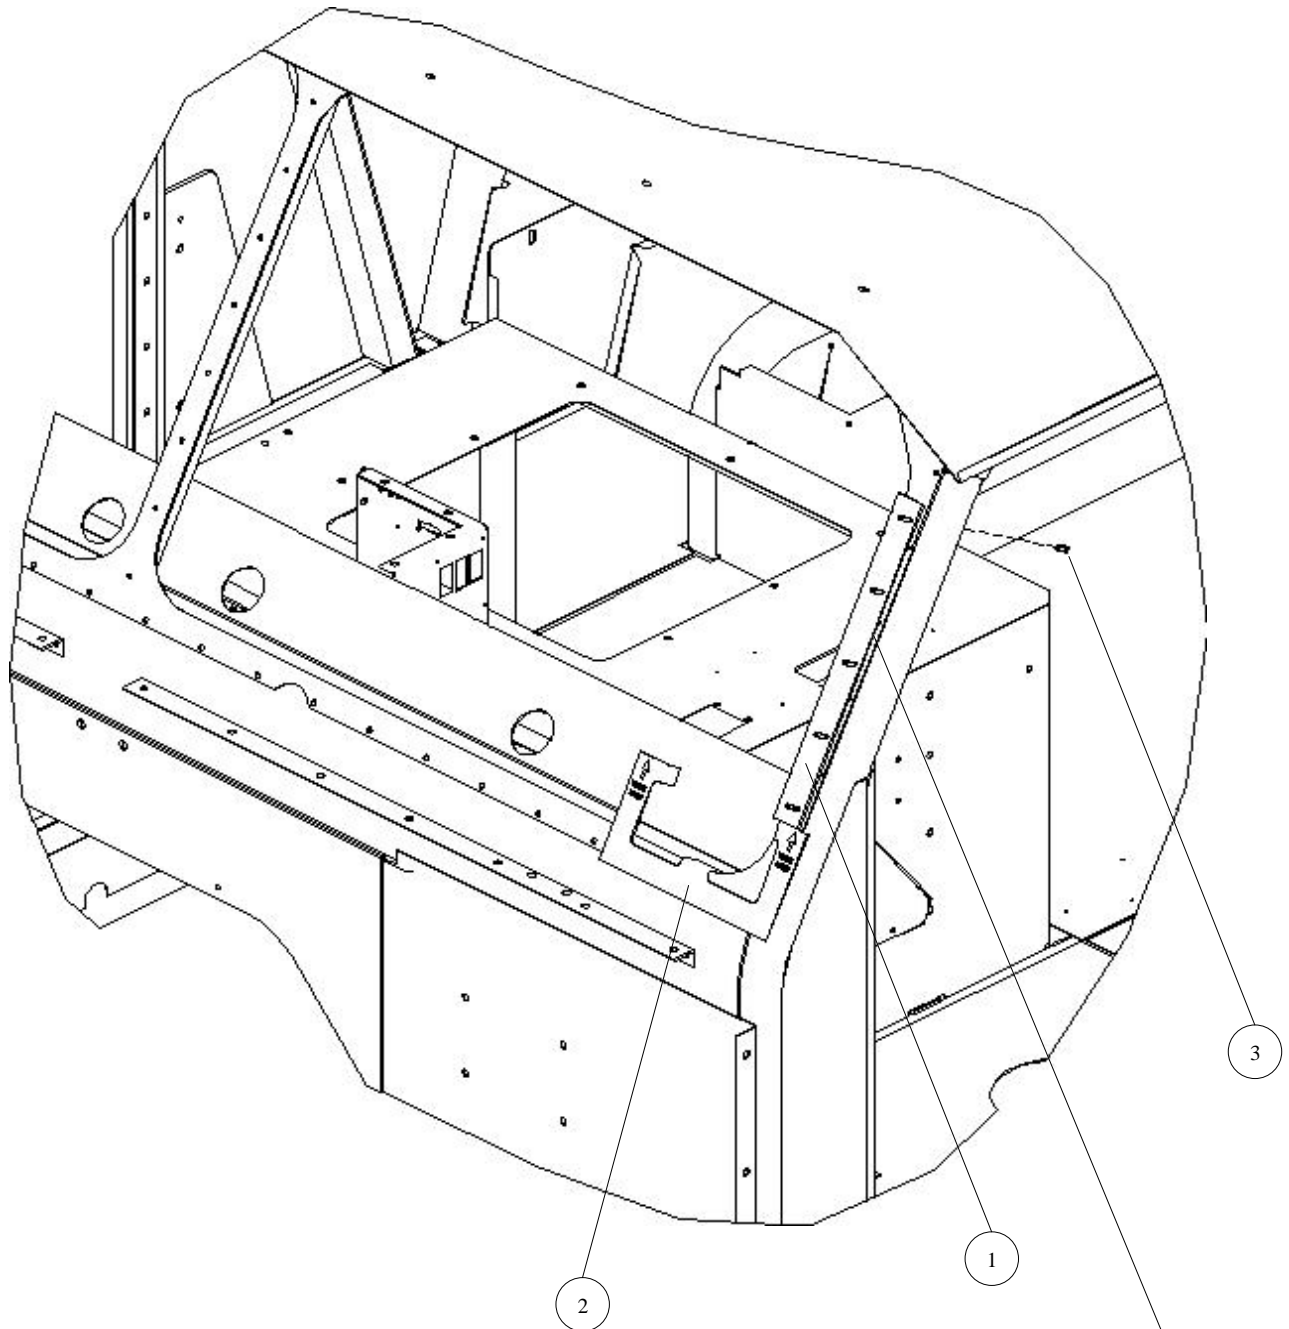

Figure 3-3. Side Windshield Bracket Installation.
2. Install side windshield brackets as follows (see Figure 3-3):
- a. Locate two side windshield brackets (1) against sides of cab windshield opening using template (2).
- b. Secure windshield brackets (1) to cab at locations determined by template (2) by tightening five setscrews (3) in each bracket (1). Add Loctite to threads.